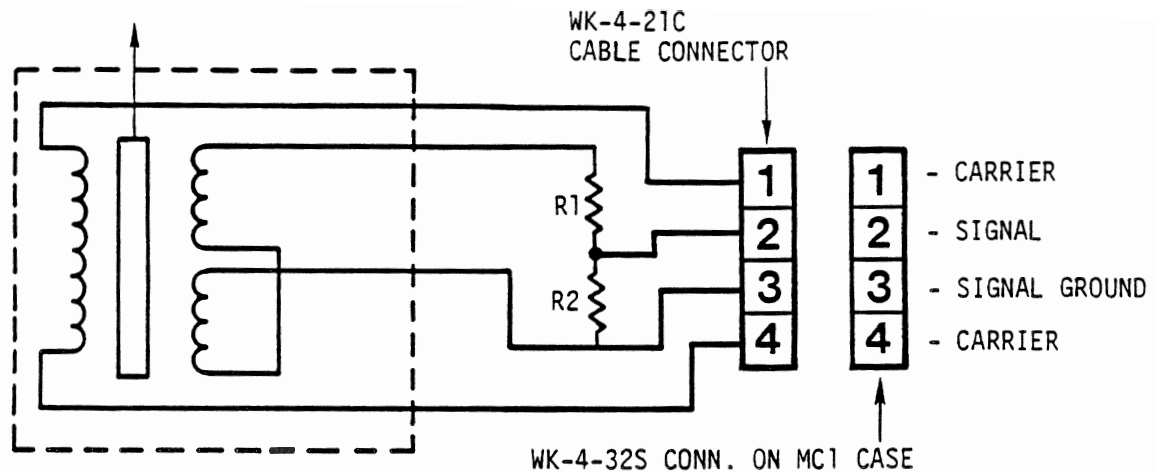

Figure 2-5 - LVDT Connections for Input > 50 mV/V
2.9 For an LVDT or RVDT with a full scale output of more than 50 mV/V, the transducer connections should be per Figure 2-5. The values of  $R_1$  and  $R_2$ , which form a voltage-divider across the LVDT output, can be calculated as follows: